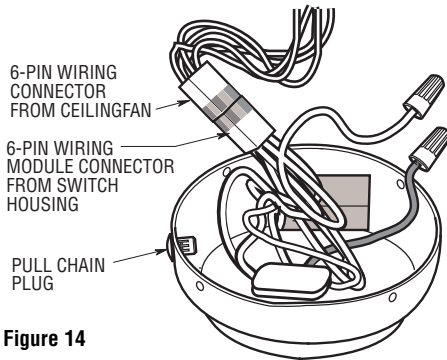

Figure 14
- 5. Connect the 6-pin wiring connector of the module to the ceiling fan motor assembly wiring connector. The connectors are keyed and must be mated correctly before they can be engaged (Figure 14).